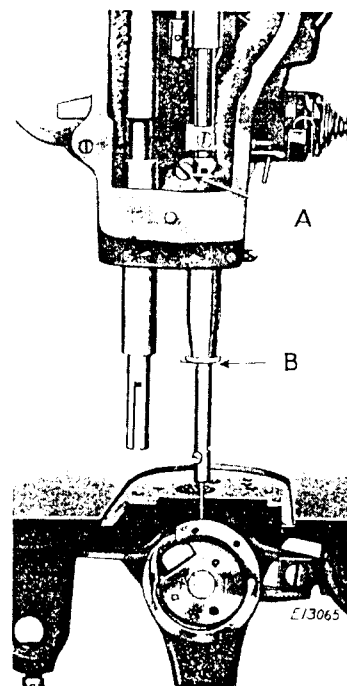

Fig. 18. Showing Needle Bar
In case the needle bar is not set at the correct height, loosen the needle bar connecting stud pinch screw (A, Fig. 18) and move the needle bar up or down until the upper timing mark is in the position, as instructed above, then securely tighten the screw (A).
Turn the balance wheel over toward you until the needle bar moves down to its lowest point. When the needle bar is in this position, the upper timing mark on the needle bar should be just visible at the lower end of the needle bar bushing, as shown at B, in Fig. 18.